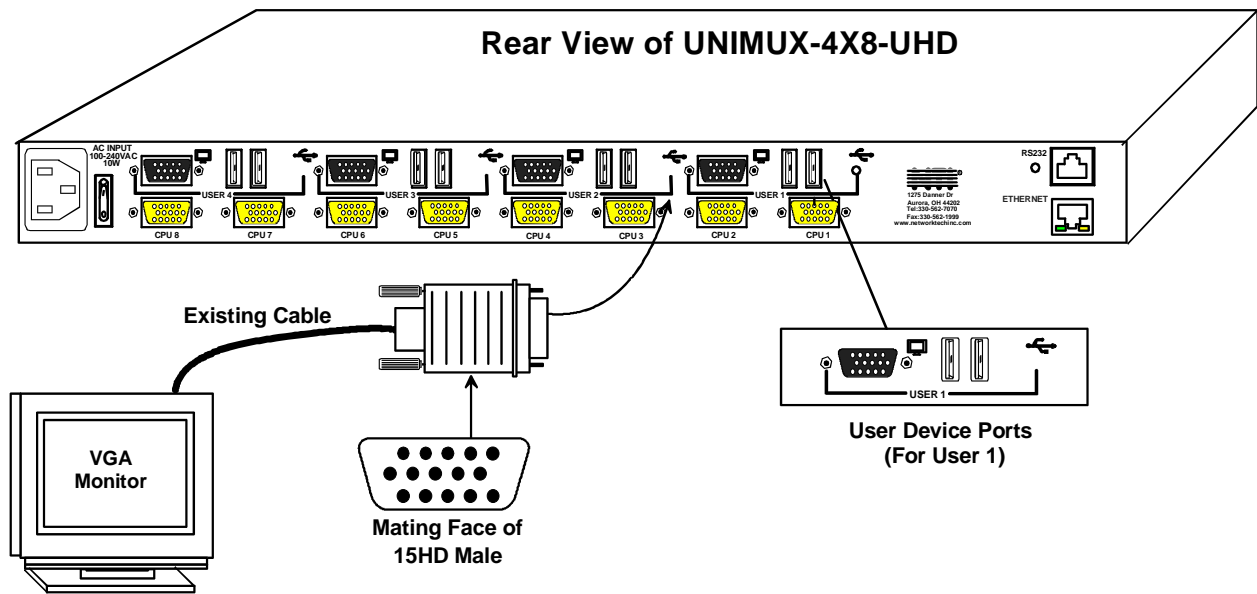
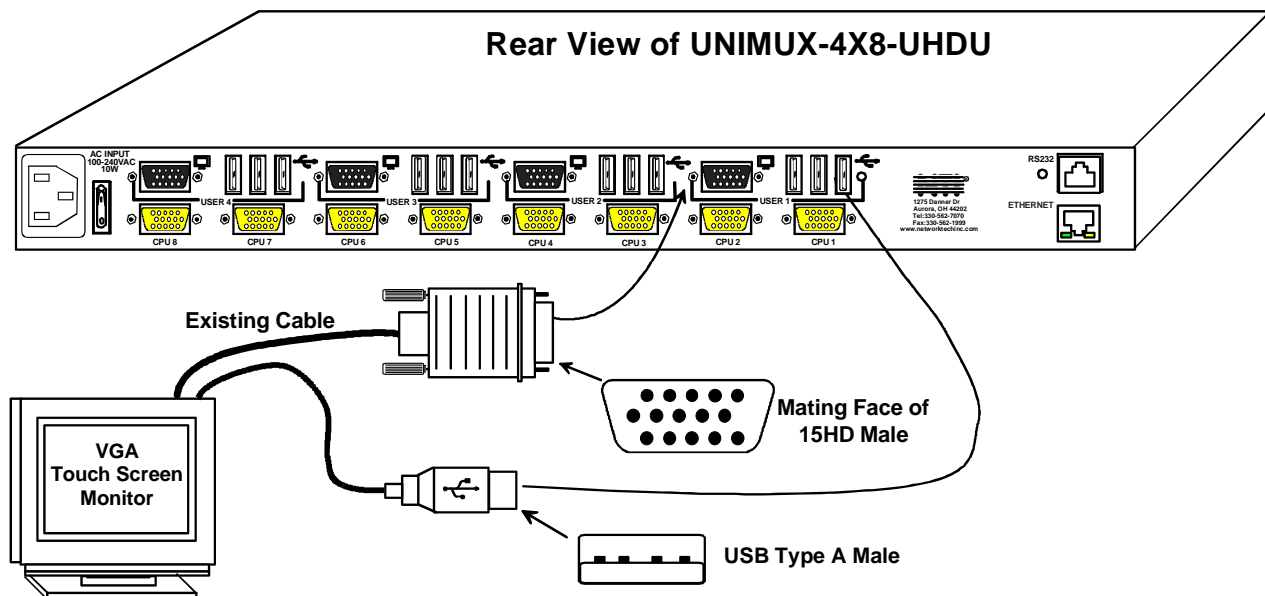

Figure 2- Install user monitor(s)
Figure 3- Install user touch screen monitor
1. Connect the 15HD male cable end from each user monitor to the female black 15HD ports marked "MONITOR x" on the rear of the UNIMUX switch (see Figure 2 ). If a touch screen monitor is being connected (models with touch screen support only), connect the USB cable from the monitor to any one of the USB type A connectors in the same user device port group (see Figure 3 ).